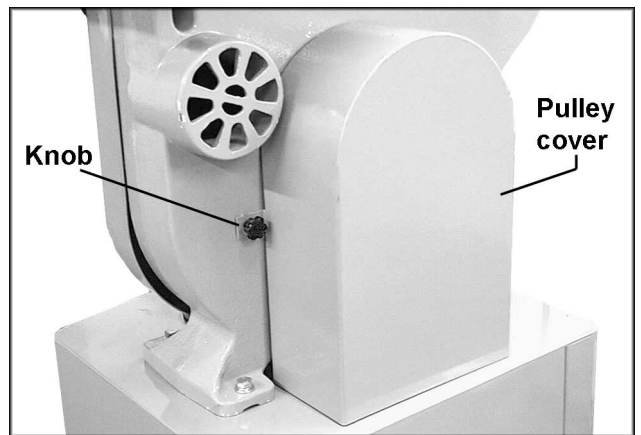

Fig. 9
10. Screw the two small knobs (Fig. 9) into the threaded holes in the saw body. Slide the pulley cover down over the knobs, and tighten the knobs.